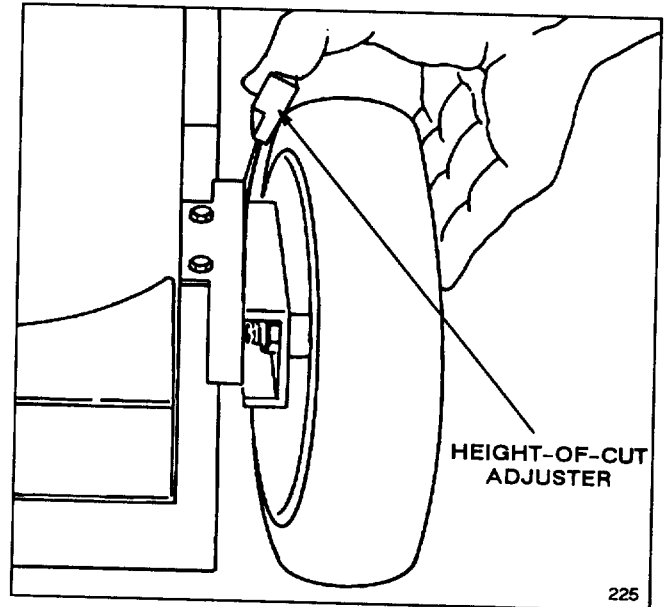

Figure 17
2. For easier adjustment, lift housing up so wheel is off ground. Do not place hands under deck to lift housing. Squeeze adjusting lever toward wheel (Fig. 17) and move it to the desired setting. Assure pin on adjusting lever engages notch in mower housing wear plate. Adjust all wheels to the same setting.